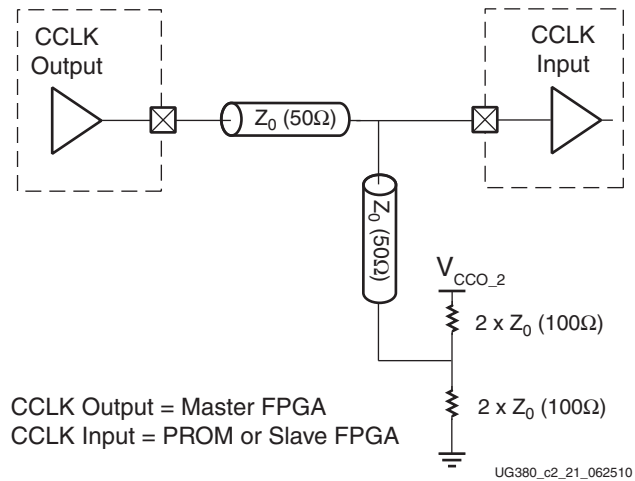
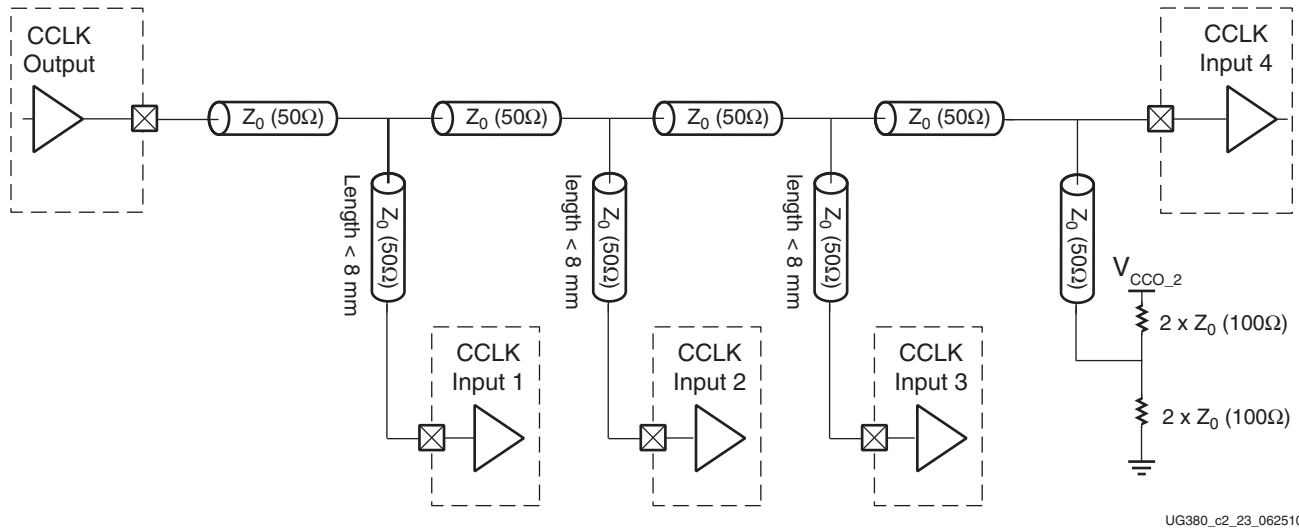
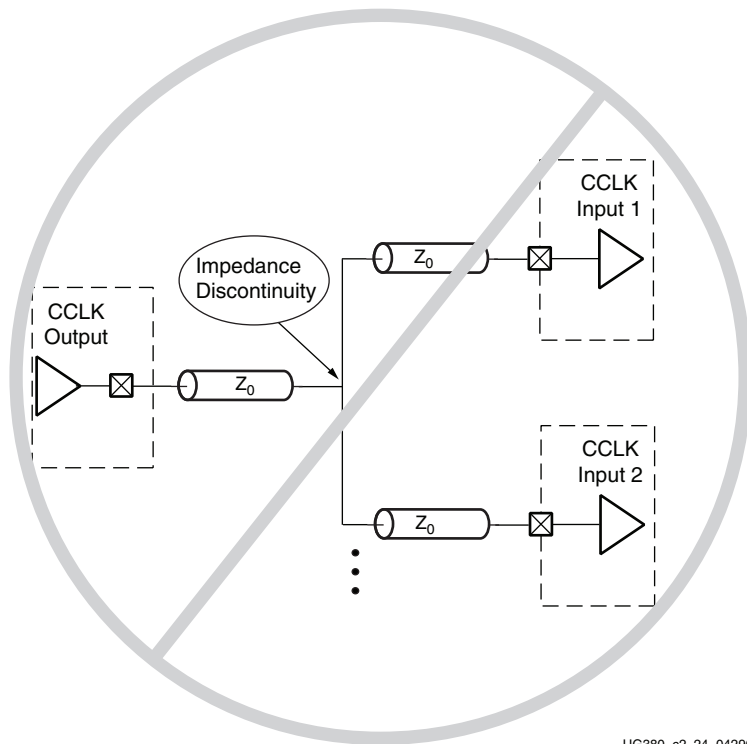

Figure 2-22: Point-to-Point: One CCLK Output, One CCLK Input
Figure 2-24: **Multi-Drop: One CCLK Output, More Than Two CCLK Inputs**
Figure 2-25: **Not Recommended**
- Always route the CCLK net without any branching; do *not* use a *star* topology (Figure 2-25).
Familiarity with the advantages and disadvantages of available termination techniques helps the designer choose the best option for the target application. Refer to UG393, *Spartan-6 FPGA PCB Design and Pin Planning Guide*, for detailed guidelines to determine the appropriate topology for the intended application and detailed trade-offs. Figure 2-22 through Figure 2-24 show a few possible topologies for CCLK distribution. Because the Master CCLK goes to high impedance at the end of the configuration sequence, the examples using parallel termination can be less desirable than other termination options because more power is dissipated. This trade-off must be weighed against other factors to determine the optimal termination topography for an interface.
Figure 2-22 through Figure 2-25 show the recommended topologies for CCLK distribution.
Figure 2-22 shows the basic point-to-point topology for one CCLK driver (FPGA master) and one CCLK receiver (PROM or FPGA slave).
Figure 2-24 shows the multi-drop *flyby* topology for one CCLK driver and more than two CCLK receivers (four in this example). All CCLK inputs except input 4 have length constraints.
Figure 2-25 shows a *star* topology where the transmission line branches to the multiple CCLK inputs. The branch point creates a significant impedance discontinuity. This arrangement is **Not Recommended**.